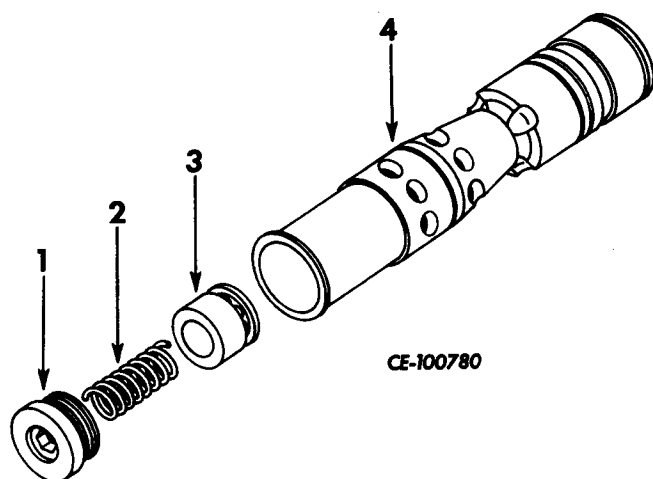

Figure 11-51
Disassemble plunger by immersing it in a heated fluid to soften loctite sealant on cap (1, Fig. 11-51) and allow its removal from bore of plunger (4). **DO NOT APPLY DIRECT FLAME HEAT TO PLUNGER, AS DISTORTION OF PLUNGER WILL RESULT.** Remove spring (2) and check (3) to complete plunger disassembly.
Insert check (3, Fig. 11-51) and spring (2) into bore of plunger (4). Spray cap (1) with Locquick Primer Grade T and allow to dry for five minutes. Apply three drops of Loctite Sealant Grade CVV to threads of cap and thread into plunger bore. **DO NOT** use excessive amount of sealant or apply to areas other than cap threads.